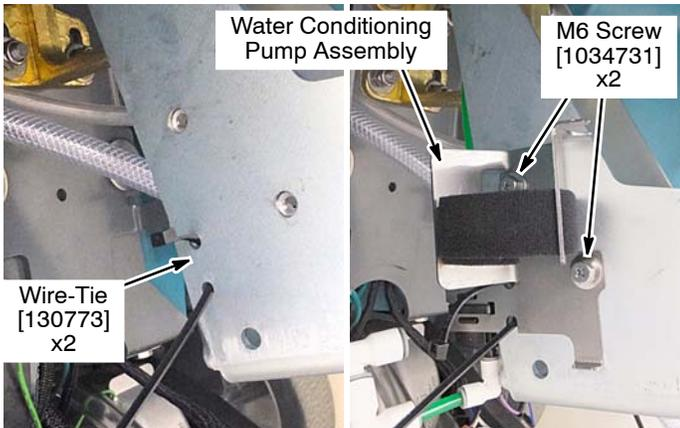

Fig. 48
- Route two wire-ties in scrub head bracket, both sides of bracket, as shown (Figure 48). Using two M6 Hex screws, mount the water conditioning pump assembly to scrub head bracket as shown (Figure 48).